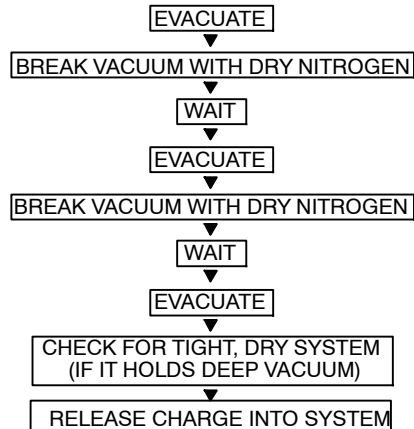

Fig. 21 - Triple Evacuation Method
Refer to Fig. 21 and proceed as follows:
5. Repeat this procedure as indicated in Fig. 21. The system is then free of any contaminants and water vapor.